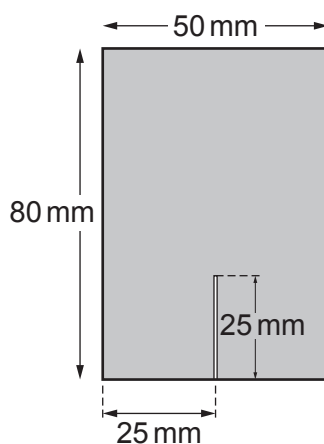

Fig. 2.1
1. The slit should be cut from a piece of rigid card into a rectangle of length 80 mm and width 50 mm. A slit of width 1.0 mm and length 25 mm should be cut into the card as shown in Fig. 2.1. Pieces of adhesive putty should be fixed to the bottom corners of the rigid card to enable it to be placed upright on the page.